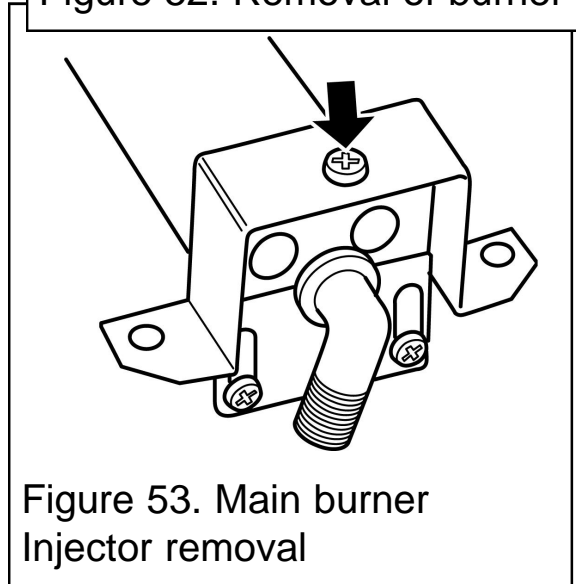

Figure 53. Main burner injector removal
See figure 53.
2. Remove the burner clamping screw (See figure 53)